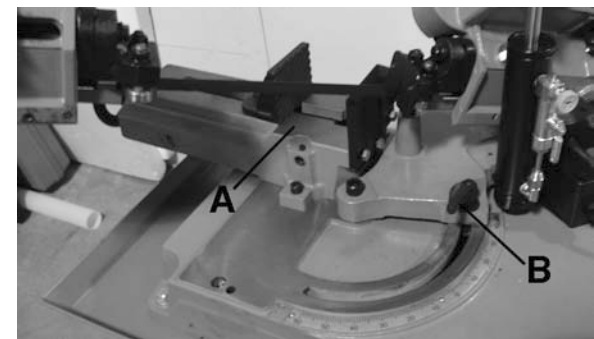

FIGURE 14
**To set up for a 0°- 45° miter cut to the right**, first make sure the table (A) Fig.14 is positioned as shown. Loosen miter base lock handle (B) and pivot miter base by pushing the motor towards the rear until the desired angle is obtained, retighten miter base lock handle. You are now ready for a 0°- 45° miter cut to the right.